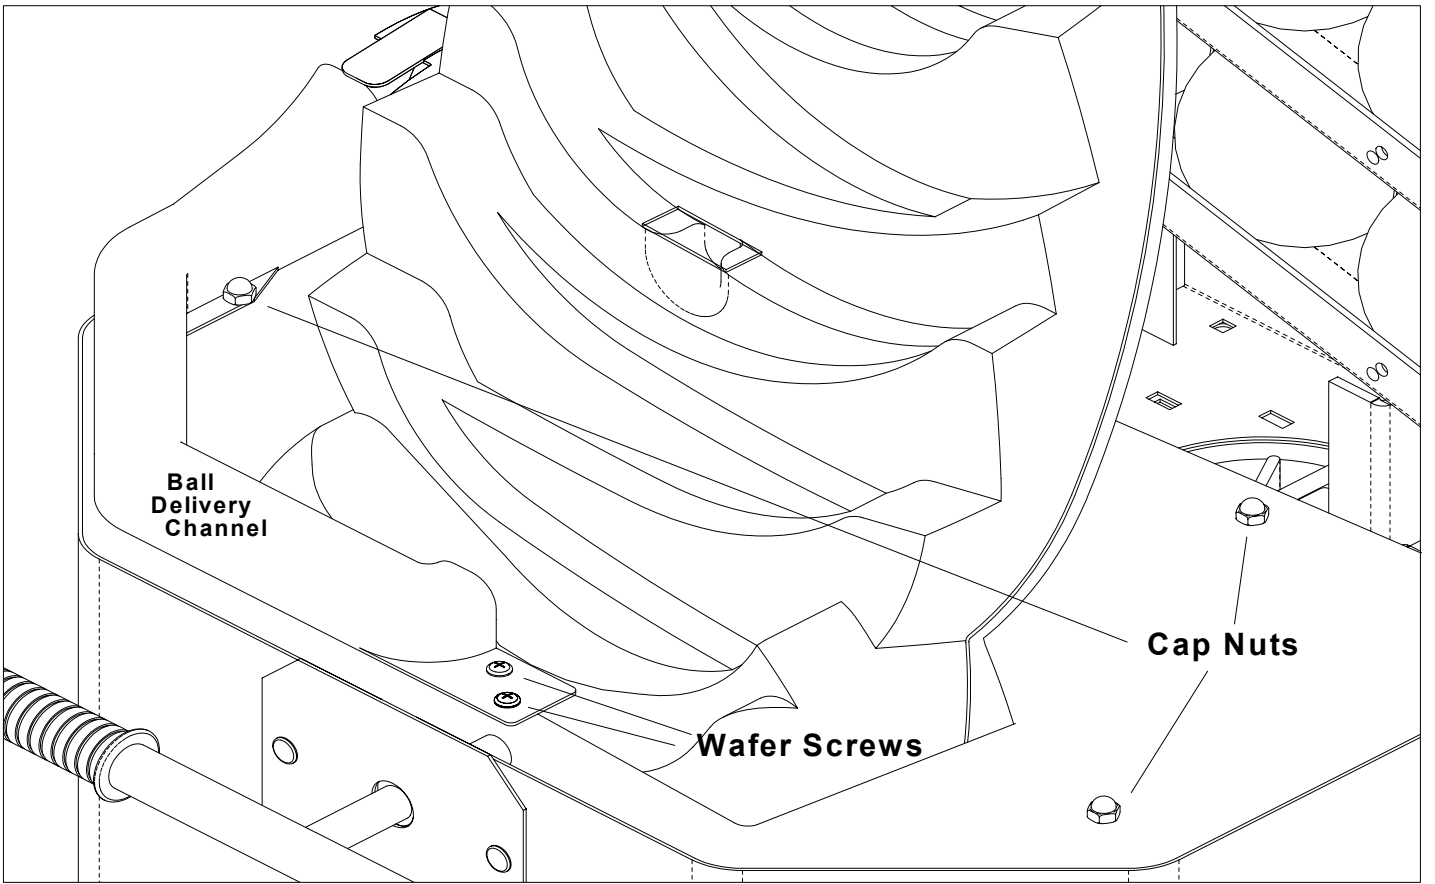

Figure 13
2. Remove the seven 7/16 cap nuts located on the black bottom tray (see figure 13) and remove the two wafer head screws at the front of the black bottom tray located in front of the play field (see figure 13). Remove ball delivery channel.
Remove the front shield of the Gravity Hill to expose the mountain. Then remove the cap nuts on the black bottom tray. Right side (as you face unit) removes easily. On left side, be gentle because of the micro-switches are mounted to the tray. Pull to the side. It is not necessary to disconnect wires from switches. (see figures 13 & 14).